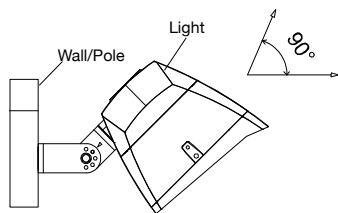

Figure 11
- STEP 3:** Connect the fixture to the bracket and tighten the screws; connect the wires properly (FIGURE 11)
- NOTICE:** Adjustable angle is 0~±194° (FIGURE 11)